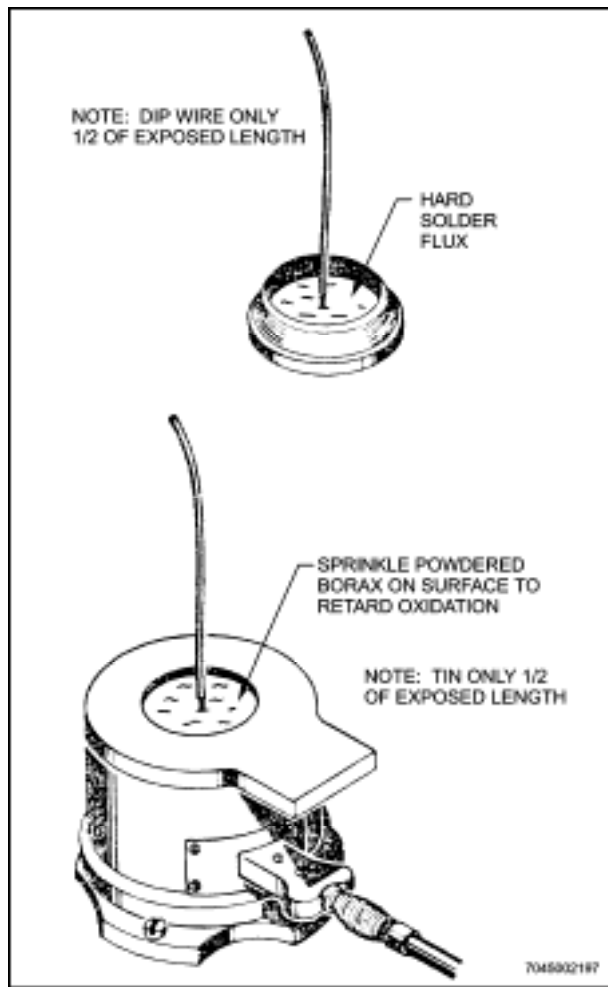

Figure 16-8 Dip Tinning Thermocouple Wire in Silver Solder
14. Thermocouple wires can be dip-tinned in molten silver solder if a solder pot capable of maintaining the required 635°C heat is available. The process is similar to that used in a dip tinning copper wire in soft solder as described in Section 2, Chapter 7. The procedure for dip tinning with silver solder is as follows (see Figure 16-8):